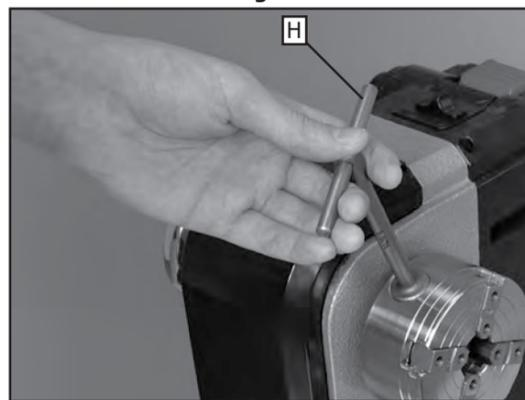

Fig. 5
CHUCK OPERATION (FIG. 5)
To open and close jaws, insert chuck key (H) Fig. 5 into hole in chuck body and twist key counter-clockwise to open and clockwise to close. The jaw slides are equipped with an auto-stop feature that prevents them from being removed.